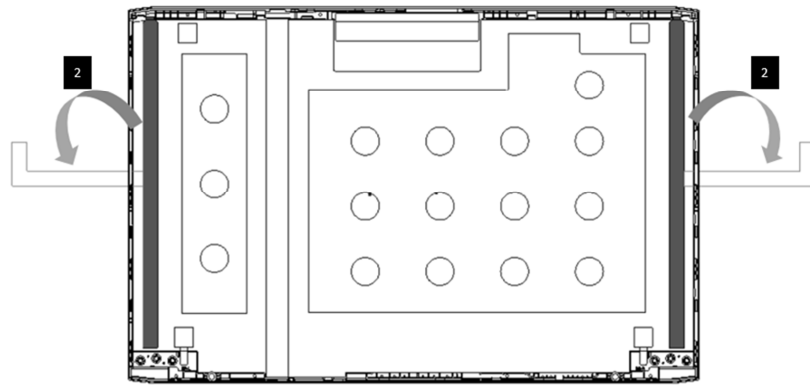

Figure 4-24 Removing the Release Paper of Panel Adhesive
4. Pull up the blue release paper of Panel Adhesive from LCD cover as shown in Figure 4-24.  ,2
8. Pull up the blue release paper of Panel Adhesive from LCD cover as shown in Figure 4-24.